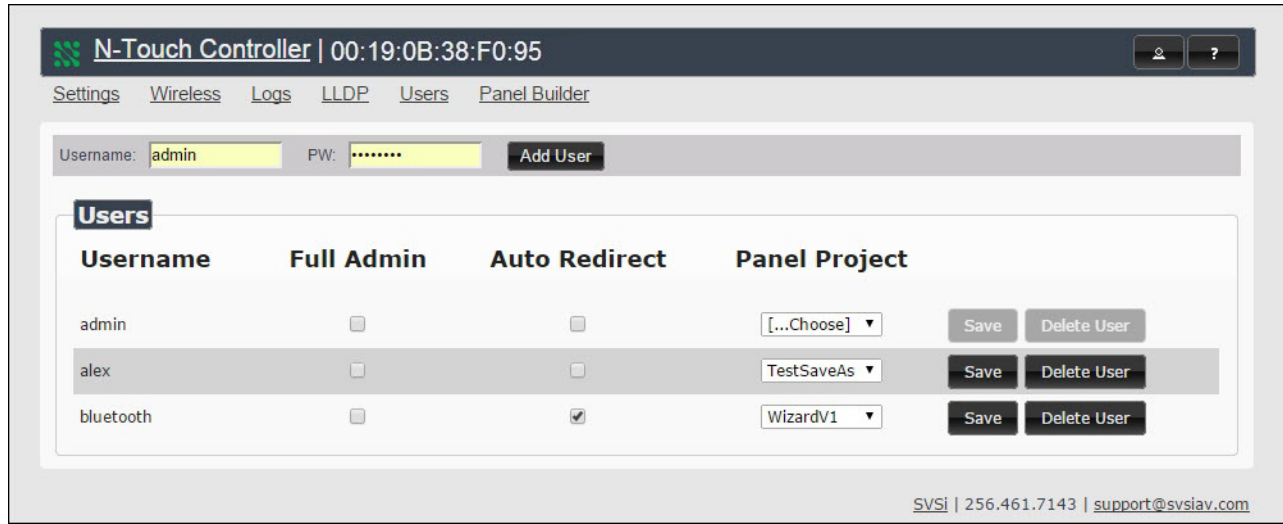

Figure 3-6. Users Page
1. Click the **Users** link at the top of the page. The screen in Figure 3-6 is displayed.